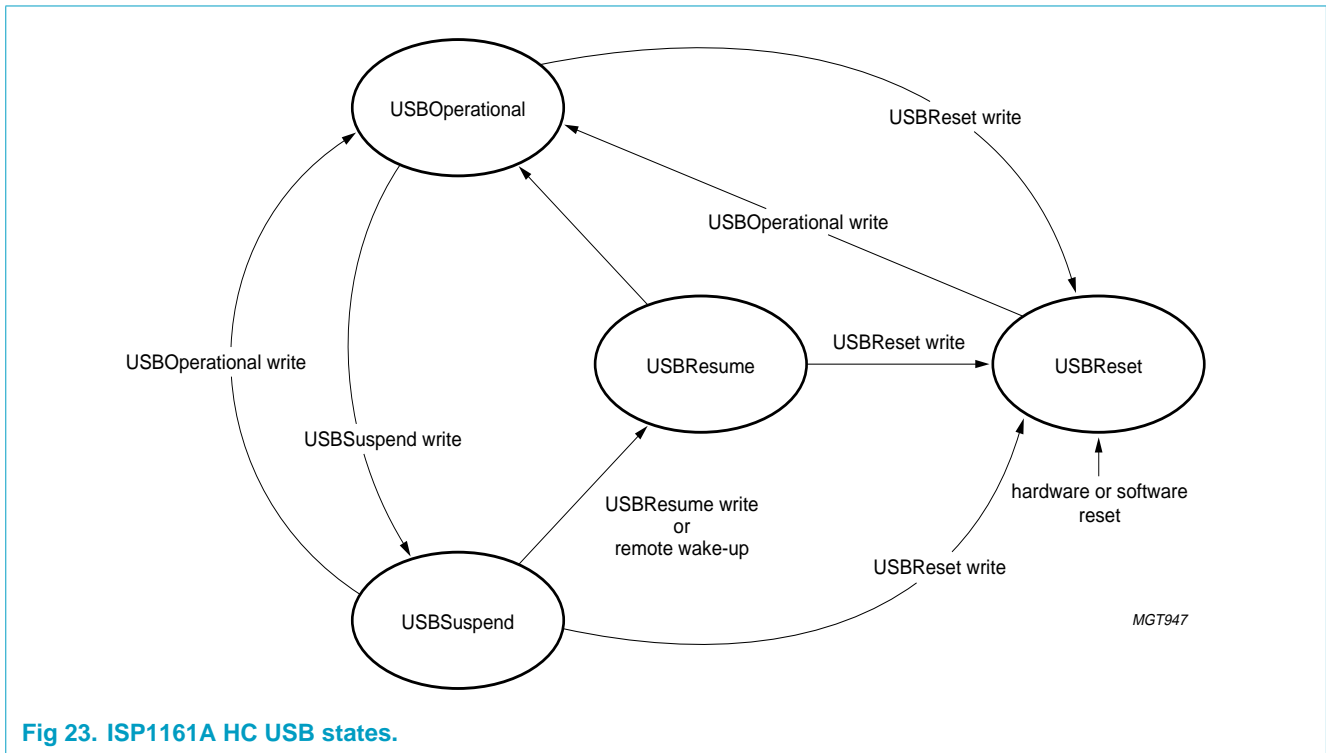

Fig 23. ISP1161A HC USB states.
The Host Controller Driver (HCD) can perform only the USB state transitions shown in **Figure 23**.
**Remark:** The Software Reset in **Figure 23** is not caused by the HcSoftwareReset command. It is caused by the HostControllerReset field of the HcCommandStatus register (02H - read, 82H - write).